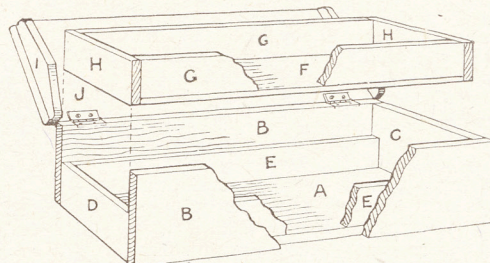

Fig. 2—Cut-away constructional detail
Allow the glue to harden, and then make the two runners (E). These are 7 $\frac{3}{8}$ ins. long by $\frac{3}{8}$ in. wide, by $\frac{3}{16}$ in. thick. See that the long edges are flat and even after cutting them—our glasspaper board comes in well again for this job. Wipe one side and one edge of the two runners with glue and press them down inside the box as shown in Fig. 2. In this diagram, parts of the sides, etc. have been shown cut away to make construction clear.